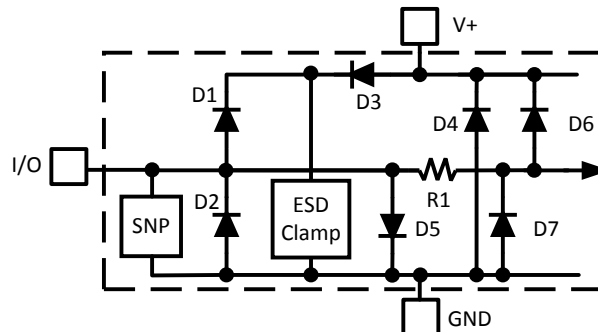

Figure 4. ESD Protection Input Structure
- (1) Absolute Maximum Ratings indicate limits beyond which damage to the device may occur. Operating Ratings indicate conditions for which the device is functional, but do not ensure performance limits. For ensured specifications and test conditions, see the Electrical Characteristics. The ensured specifications apply only for the test conditions listed. Some performance characteristics may degrade when the device is not operated under the listed test conditions.
- (2) All voltages are measured with respect to GND, unless otherwise noted.
- (3) When the input voltage ( $V_{IN}$ ) at any pin exceeds the power supplies ( $V_{IN} < \text{GND}$  or  $V_{IN} > V_{+}$ ), the current at that pin should be limited to 5 mA. Parasitic components and/or ESD protection circuitry for the LM63's pins are shown in Figure 4 and Table 1. The nominal breakdown voltage of D3 is 6.5 V. Care should be taken not to forward bias the parasitic diode, D1, present on pins D+ and D-. Doing so by more than 50 mV may corrupt temperature measurements. An "X" means it exists in the circuit.
- (4) Thermal resistance junction-to-ambient when attached to a printed circuit board with 2 oz. foil is 168°C/W.
- (5) Human body model, 100 pF discharged through a 1.5 k $\Omega$  resistor. Machine model, 200 pF discharged directly into each pin. See Figure 4 and Table 1 for the ESD Protection Input Structure.
- (6) See the URL <http://www.ti.com/packaging> for other recommendations and methods of soldering surface mount devices.